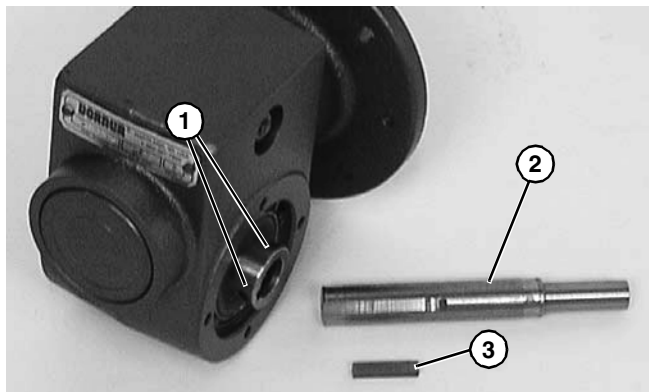

Figure 34
1. Loosen six (6) set screws (**Figure 34, item 1**). Remove drive shaft (**Figure 34, item 2**) and key (**Figure 34, item 3**).
3. Replace the original shaft components into new gear reducer (**Figure 34**).